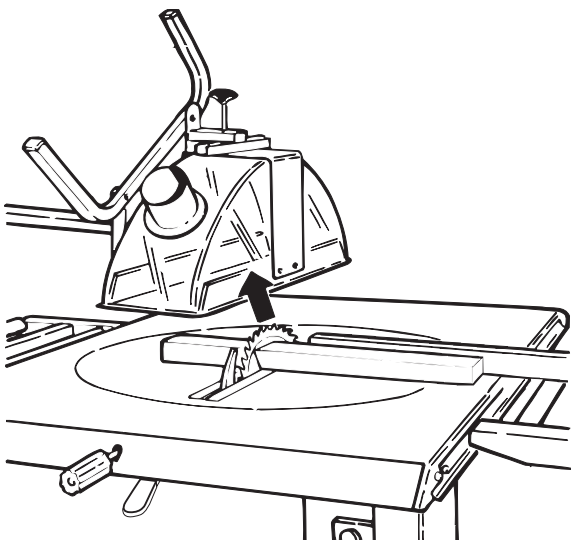

Fig. 14
- Cut as described in 5.1 Cross cuts above. Fig 14 and 15.